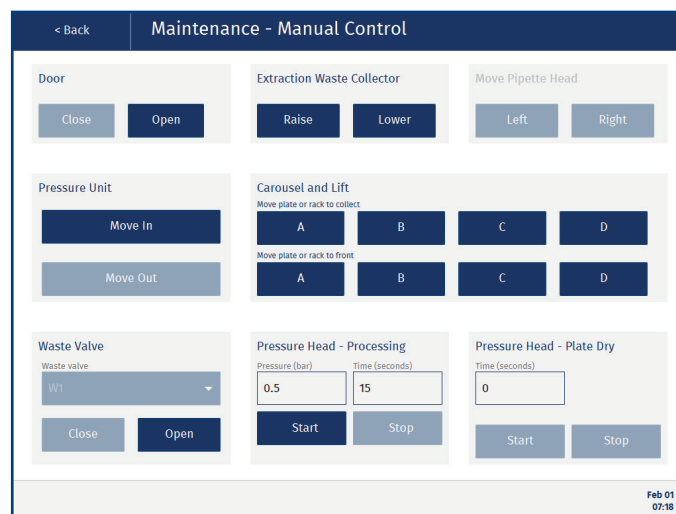

Figure 70. The Manual Control view.
- b. In the **Manual Control** view (see Figure 70), press **Close** in the **Door** field.